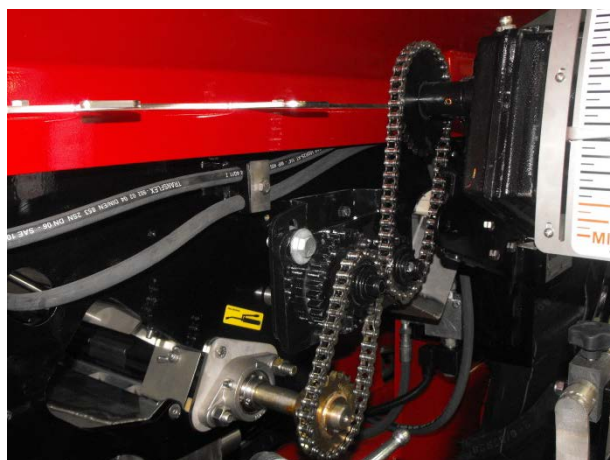

Figure 12F
4. Install the reverser on the reverser support. The necessary bolts are fixed to the reverser. Do not tighten the bolts, they used to tighten the chains [Figure 12F].
5. Install the two chains provided with the reverser; one chain link to the variable transmission and the other chain link to the metering shaft [Figure 12F].